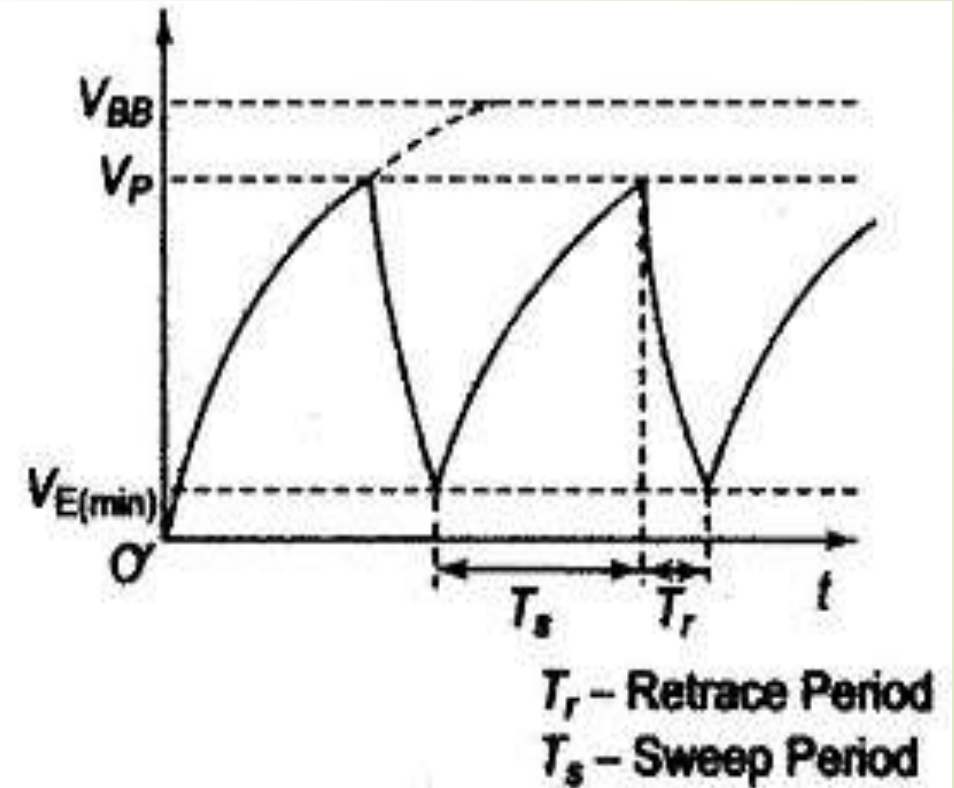

Fig. 7.9 Sawtooth Output Waveform
- The UJT is used to produce the sweep. When the power is first applied, the UJT is off and the C_T charges exponentially through R_T . The UJT emitter voltage V_E rises towards V_{BB} and when V_E reaches the peak voltage V_P , as shown in Fig. 7.9,